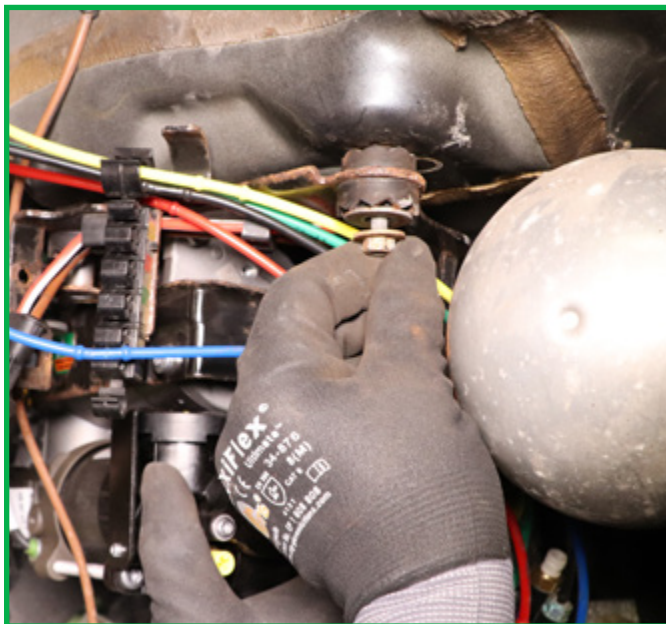

FIGURE 31
5. Reuse the factory mounting hardware to secure the compressor bracket assembly. (Figure 31)